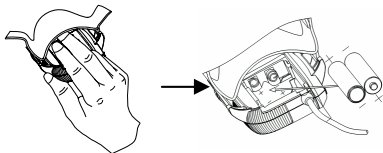

Figure 3 Battery Installation
1. Lift up the cloth covered on the battery cover. Then, use your index finger and middle finger to press against the battery cover. Meanwhile, slide it towards the side with SpO₂ probe (as shown in Figure 3).
2. Refer to Figure 3, insert two AAA size batteries into the battery compartment properly in the right direction.